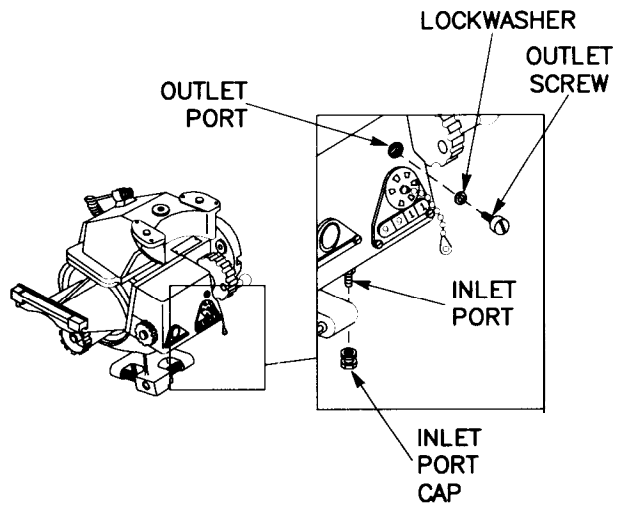

Figure 3-13 M137 Telescope Mount
a. Telescope Mount, M137 (fig. 3-13).